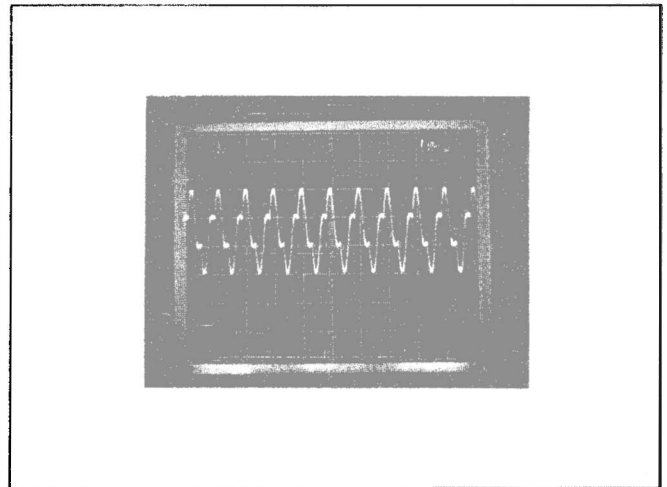

Fig. 4-7. Current waveform at T1230 for normal inverter operation at line voltage of 115 volts.
5. If a burst waveform was obtained in part 4 above, check for stable inverter operation when the line input voltage is increase to about 85 volts. Figure 4-7 shows the current waveform at T1230 for normal inverter operation at a line source of 115 volts.
The test oscilloscope horizontal sweep rate has been changed to about 50 microseconds/division for Fig. 4-7.